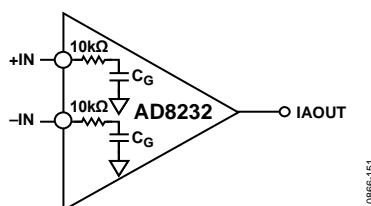

Figure 52. RFI Filter Without External Capacitors
Radio frequency (RF) rectification is often a problem in applications where there are large RF signals. The problem appears as a dc offset voltage at the output. The AD8232 has a 15 pF gate capacitance and 10 k Ω resistors at each input. This forms a low-pass filter on each input that reduces rectification at high frequency (see Figure 52) without the addition of external elements.